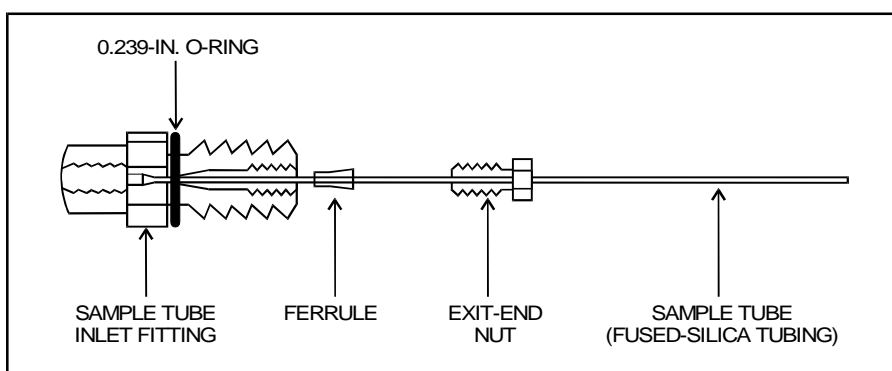

Figure 5-5. APCI sample tube connection
1. With a 3/8-in. open-end wrench, remove the sample tube inlet fitting (P/N 70005-20250), 0.239-in. ID O-ring (P/N 00107-04000), and sample tube from the APCI manifold. See Figure 5-5.
2. Slide the exit-end nut (P/N 70005-20220) and ferrule (P/N 00101-18120) onto the length of the fused-silica tubing. See Figure 5-5.